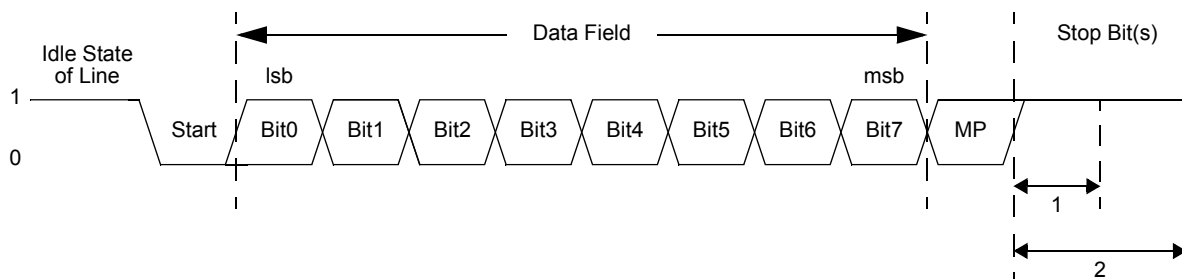

**Figure 16. UART Asynchronous MULTIPROCESSOR Mode Data Format**
The UART has a MULTIPROCESSOR (9-bit) mode that uses an extra (9th) bit for selective communication when a number of processors share a common UART bus. In MULTIPROCESSOR mode (also referred to as 9-Bit mode), the multiprocessor bit (MP) is transmitted immediately following the 8-bits of data and immediately preceding the Stop bit(s) as displayed in Figure 16. The character format is: